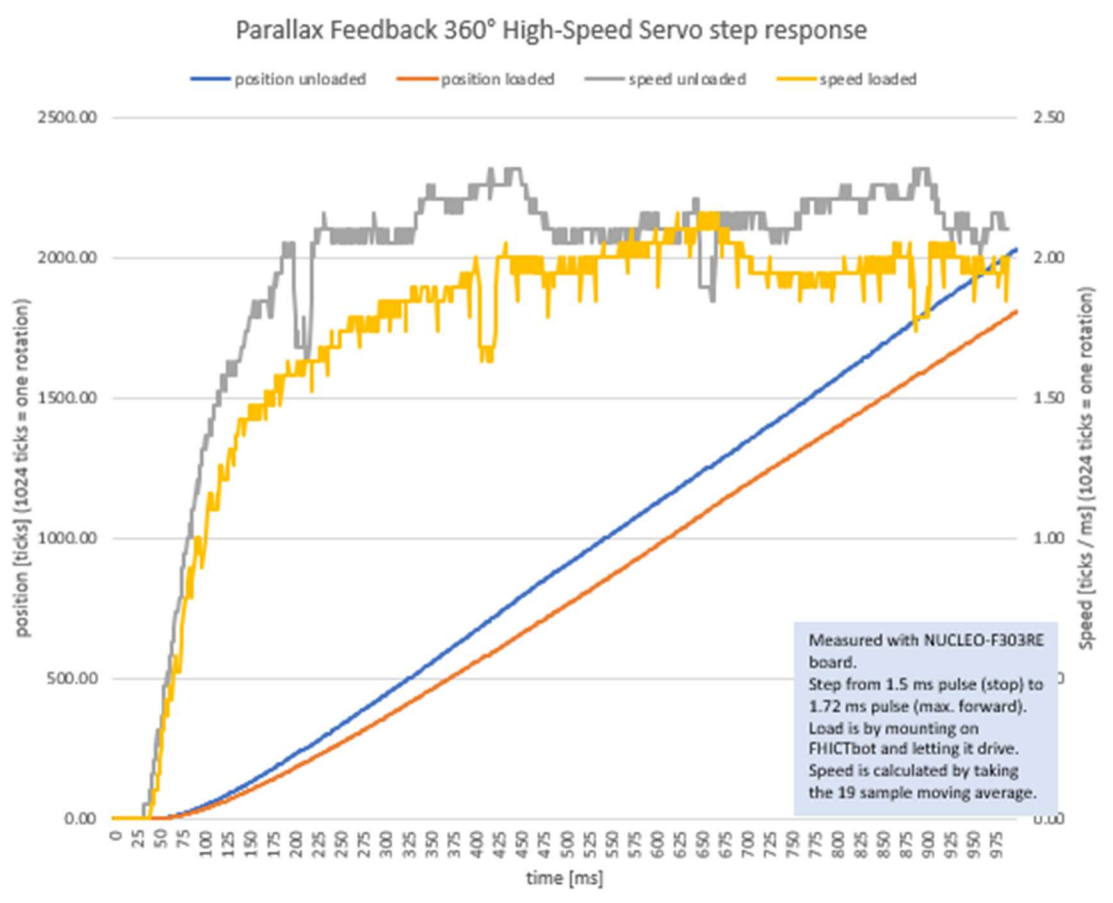

Figure 3 Parallax Feedback 360° High-Speed Servo step response
For τ which is a value that is use in the Transfer function, one of the steps is $0.63 \times A$ is. A is the height of the position unloaded (Max Speed) in figure 3 which is roughly around 2.1. So the answer is $0.63 \times 2.1 = 1.323$ ticks. With this value in the spreadsheet, the position of the ms is founded which is 128ms. τ is 128ms minus the speed loaded(0) where its starts gaining speed which is 41ms. $\tau = 128 - 41 = 87ms$.